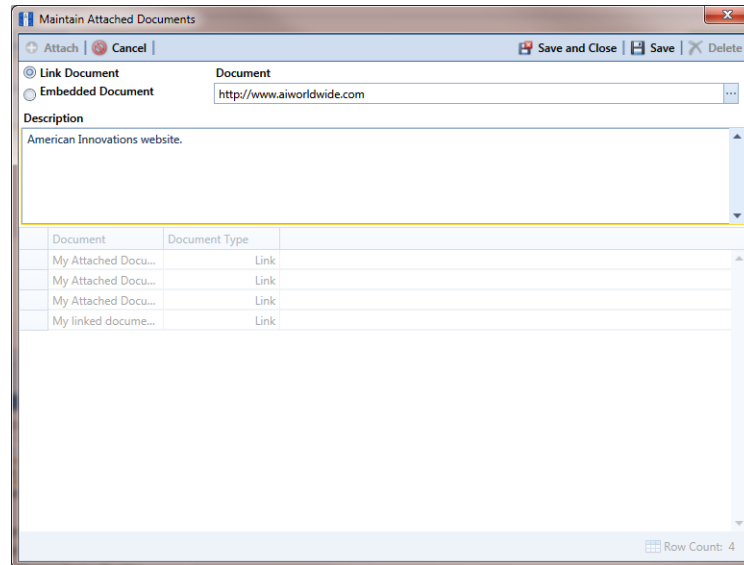

Figure 7-135. Maintain Attached Documents
- 8 If you selected *Link Document* in **step 6** and want to add a link to a web page on the Internet (Figure 7-135), follow these steps: